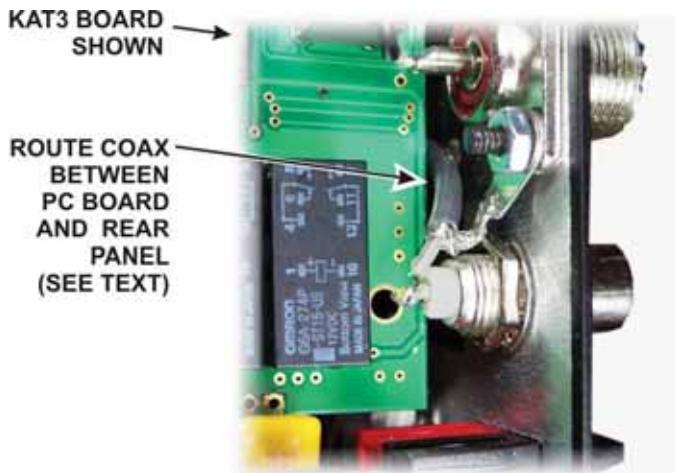
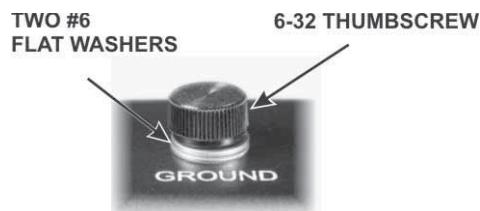

Figure 26. Routing AUX RF Connector Coax.
Figure 27. Installing Rear Panel Ground Screw
- Position the rear panel on the K3 chassis assembly so that the SO239 connector(s) are at the end nearest the KANT3 or KAT3 board. If installed, the coax cable attached to the AUX RF connector should pass between the rear panel and the KAT3 or KANT3 board (see Figure 26). Thread the 6-32 thumbscrew into the ground terminal position near the center of the rear panel as shown in Figure 27. Use two #6 flat washers between the thumbscrew and the back panel as shown. If the hole in the rear panel does not line up with the threaded hole in the ground bracket mounted on the RF board, loosen the side panel screws at the end nearest the rear panel so you can adjust the position of the rear panel as needed.